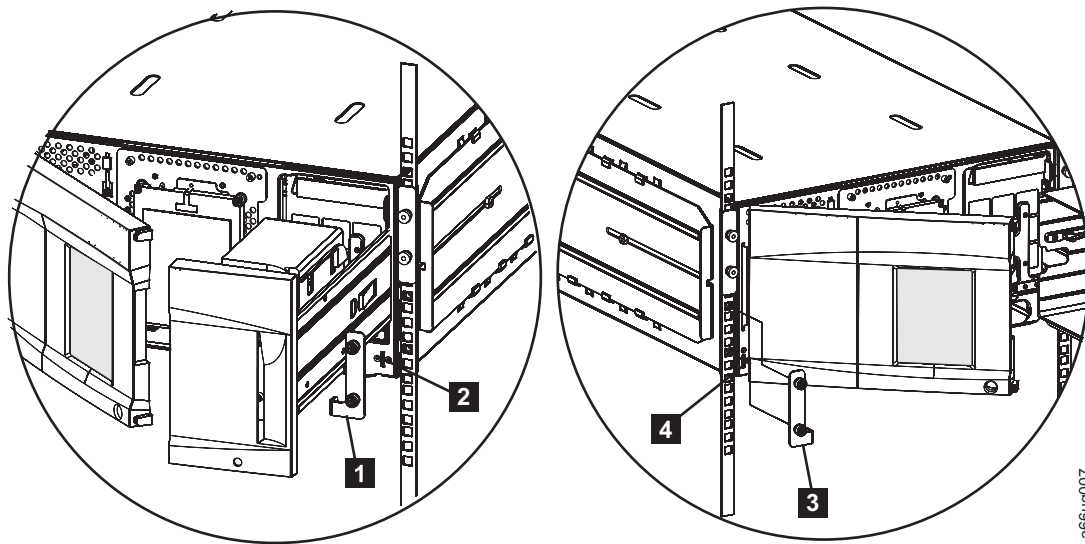

Figure 3-10. Installing the rack ears on a Control Module
1. Install the right rack ear (**1** in Figure 3-10).
- a. At the bottom right of the I/O station position on each library module, there is a slot (**2** in Figure 3-10). Insert the right rack ear into the slot.
2. Install the left rack ear (**3** in Figure 3-10).
- b. Grasp the hinged side of the door and, while pulling on the door, push to the right to expose the slot for the left rack ear (**4** in Figure 3-10).